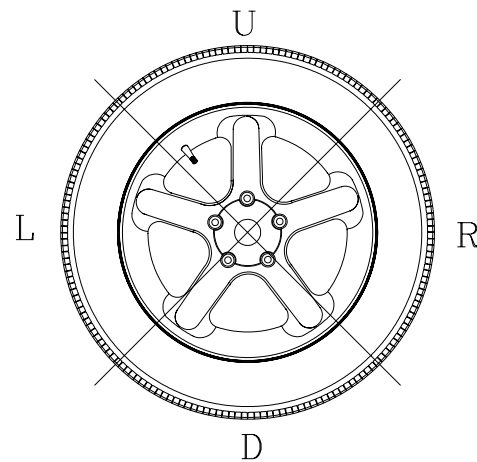

Figure 25
**C.** The wheel weight could have been placed at a wrong position. To check this, position the wheel at the correction position for the outer plane. If the wheel weight previously attached is in sector ‘L’ or ‘R’ ( Figure25), move the wheel weight up about 1” (2.54cm).